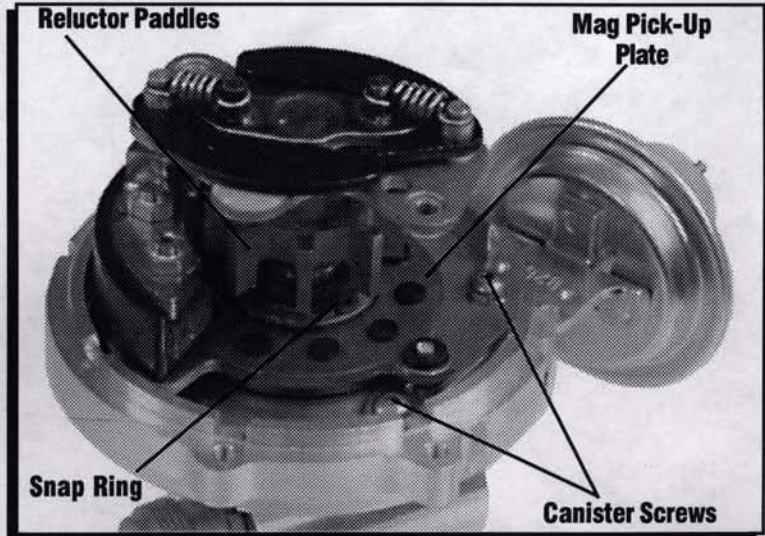

Figure 1 Removing the Vacuum Canister.
1. Remove the two Allen head screws that hold the advance canister (Figure 1).